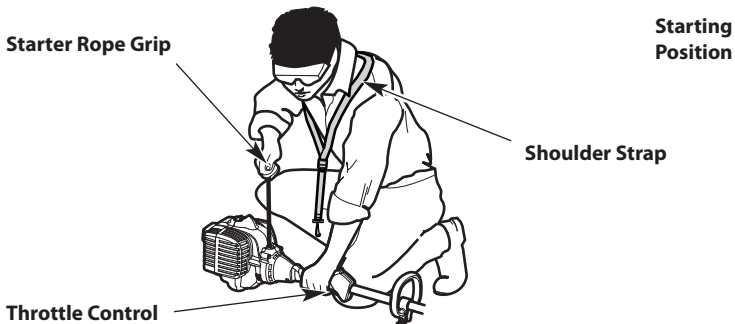

Fig. 15
WARNING: Avoid accidentally starting the unit. To avoid serious injury, the operator and the unit must be in a stable position when pulling the starter rope (Fig. 15).
3. Put the shoulder strap over the operator's head and onto the left shoulder (Fig. 15).
2. Crouch in the starting position (Fig. 15).
4. Continue to hold the throttle lockout and throttle control. Pull the starter rope with a controlled and steady motion until the unit starts (Fig. 15).